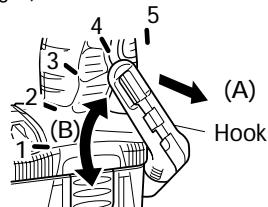

Fig. 5
- Pull out the hook toward you in the direction of arrow (A) and turn in the direction of arrow (B) (Fig. 5).